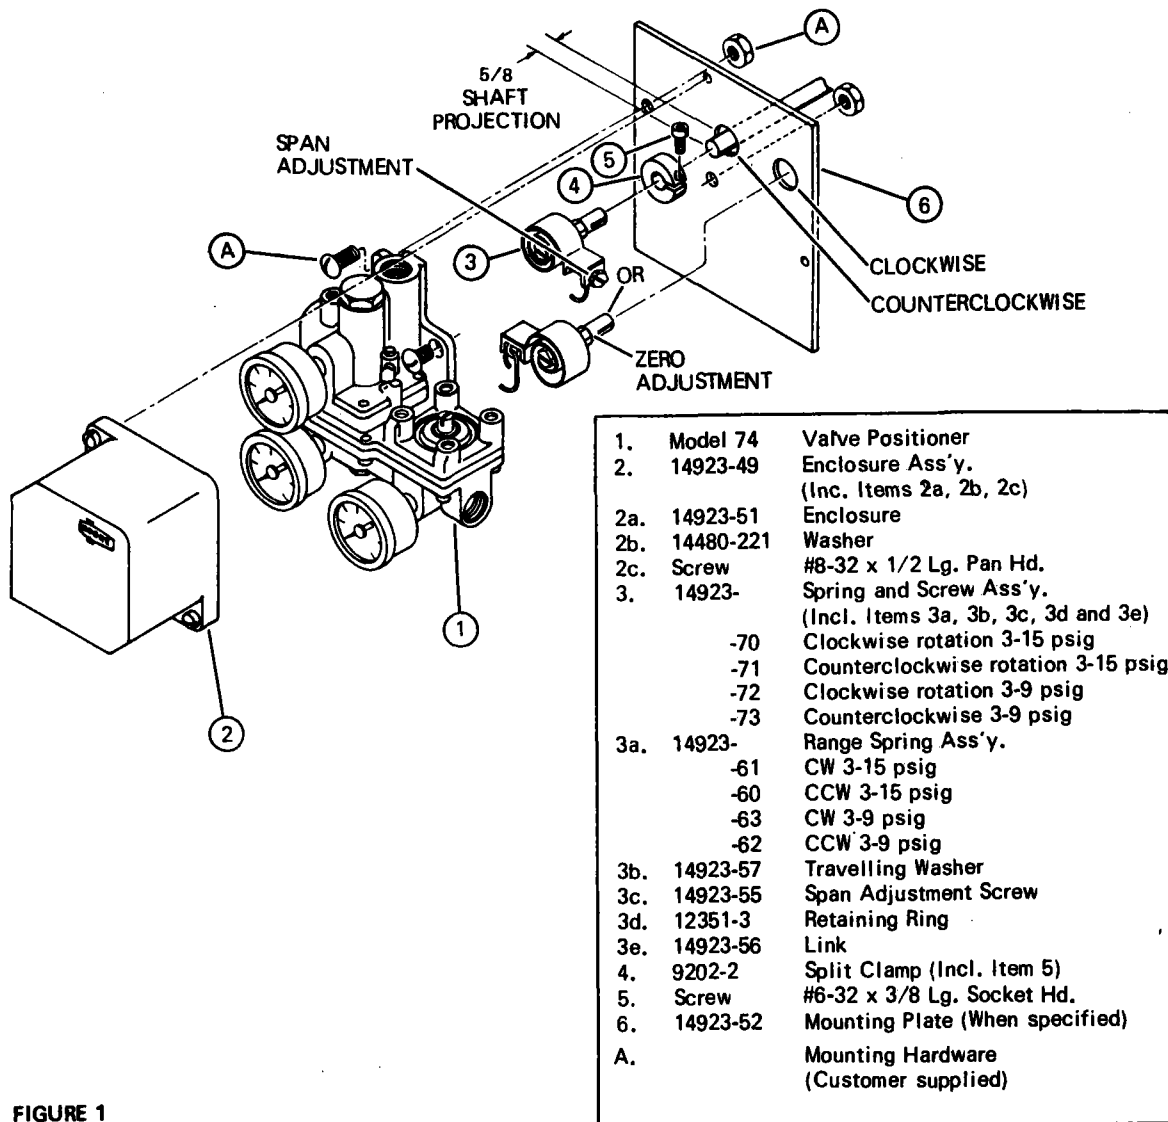

FIGURE 1
1. Refer to Figure 1 to identify the parts and installation methods.